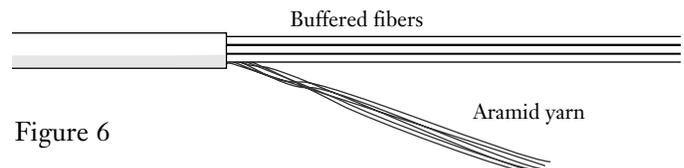

Figure 6
4.7 Use scissors to cut the aramid yarn and side cutters to cut the central member to the lengths recommended in the documentation for the product you are installing (Figure 6).